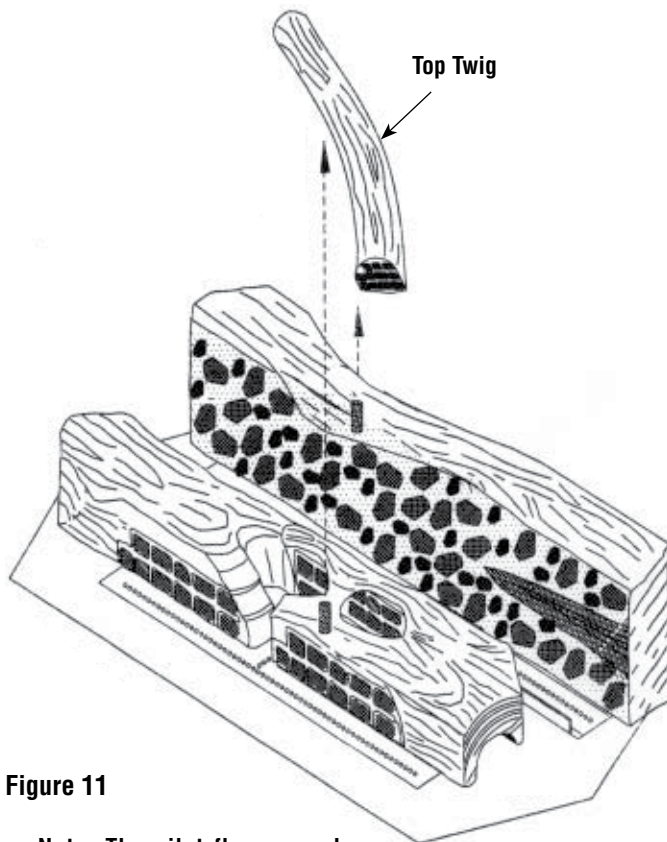

Figure 11
- Position the top twig, with the charred end forward, on the pin in the top of the rear log and the pin in the top of the right front log (see Figure 11).